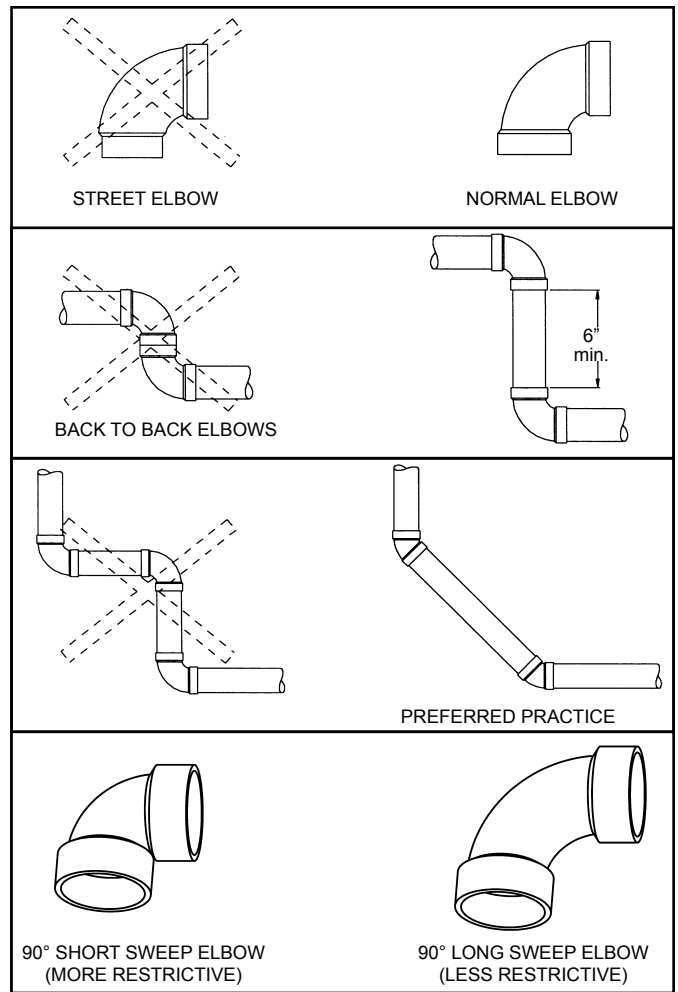

Figure 31.
Note: The information provided in Figure 31 is intended as a guideline for good vent installation practices only and is not intended to restrict venting options beyond those restrictions established by the current edition of the “**National Fuel Gas Code**”, ANSI Z223.1/NFPA 54 or any applicable local and state codes.
- Avoid using 90° elbows “back to back” and do not use street elbows. Maintain a minimum 6” straight section between elbows. Closely coupled and short radius elbows reduce the venting capacity. Figure 31 shows examples of vent pipe connections.